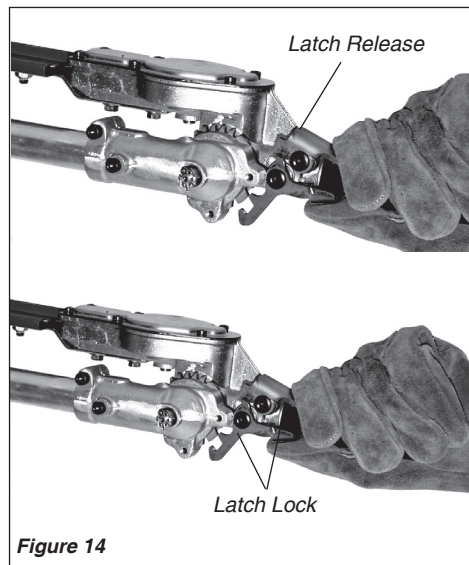

Figure 14
2. With the index finger of your left hand, press the latch release. With your left thumb, press the latch lock. See Figure 14.